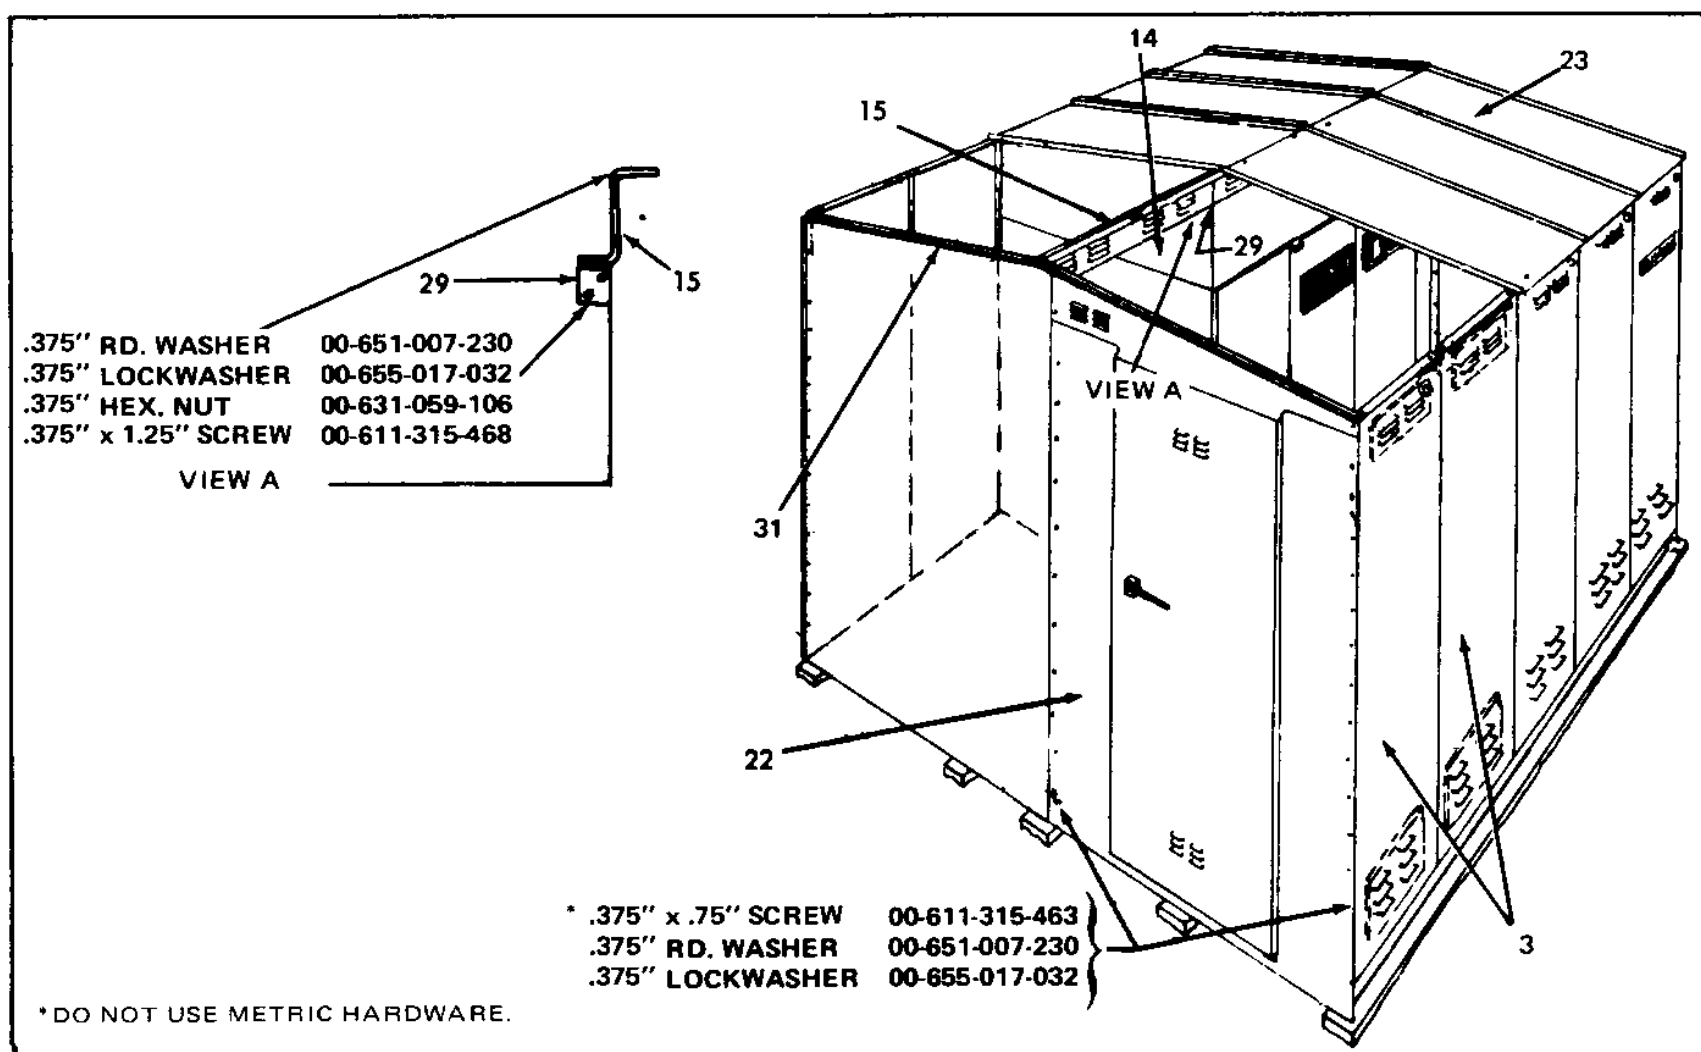
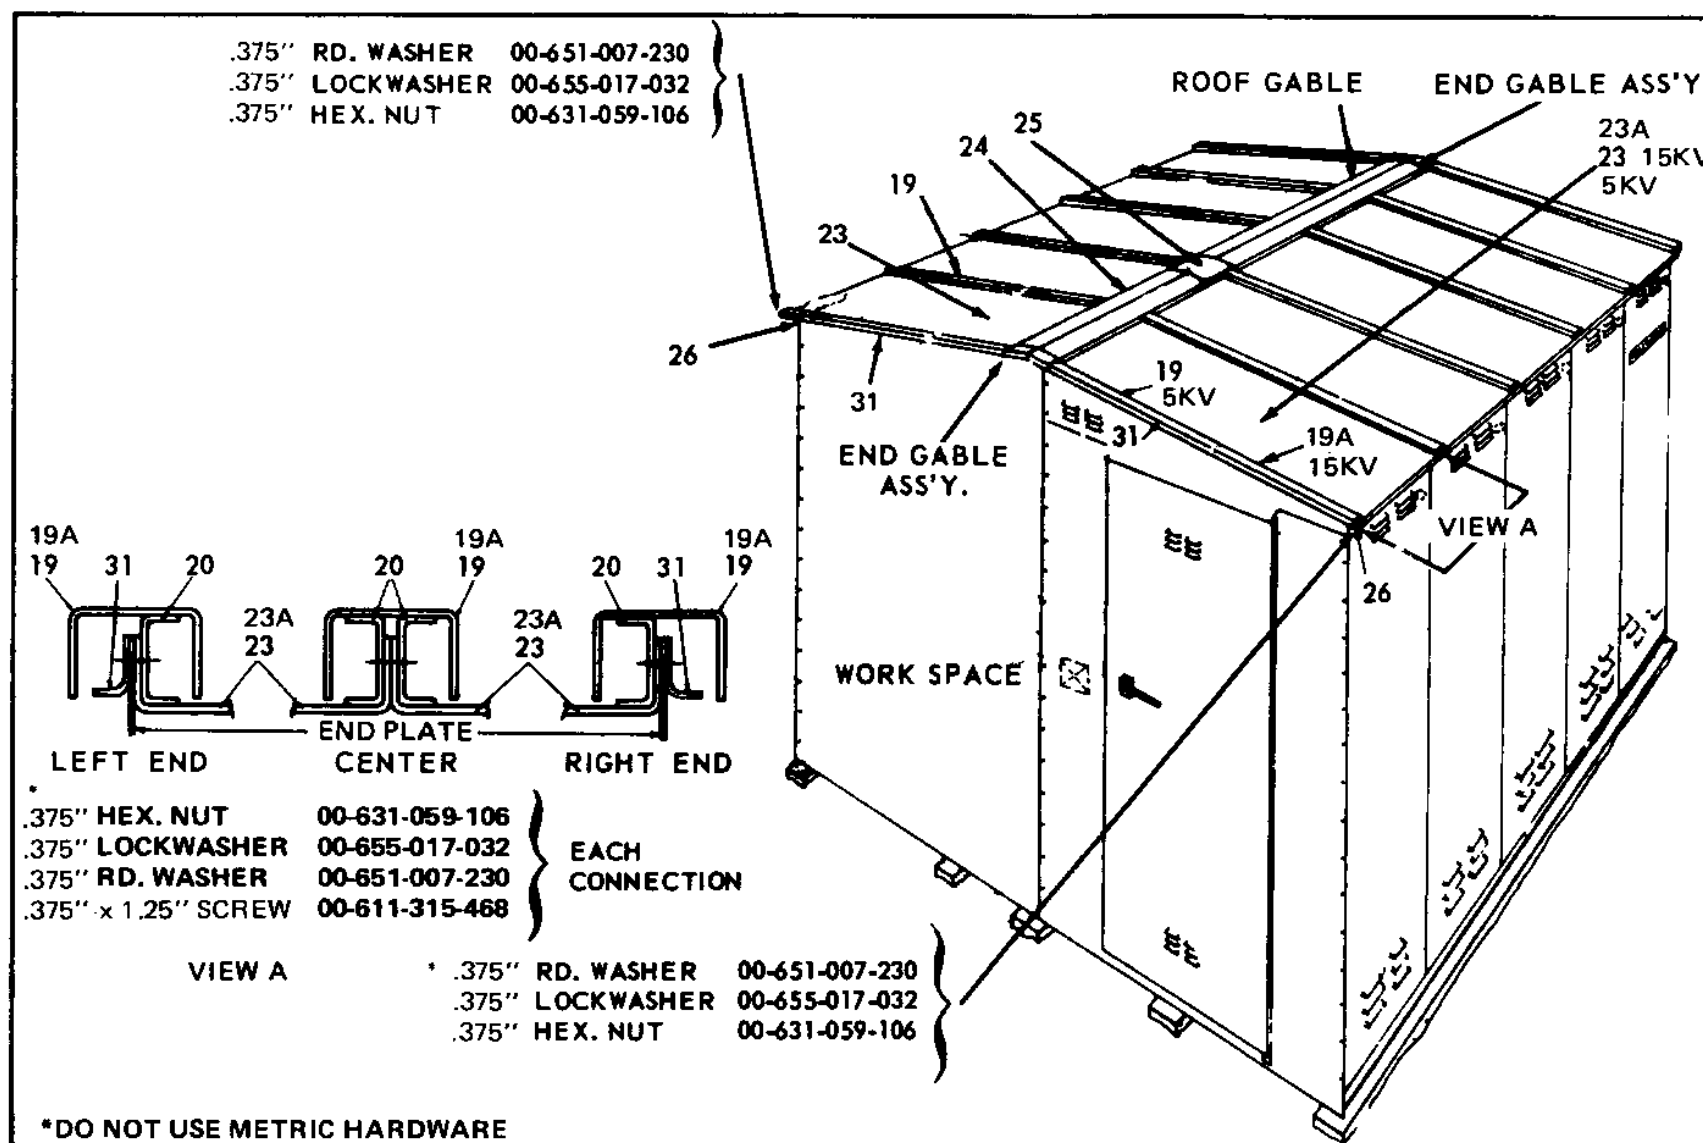

Figure 39. Door and Roof Support Installation (5 kV) — Single Aisle with Work Space
Figure 40. Roof Assembly (5 kV and 15 kV) – Single Aisle with Work Space
13. Apply .50-inch (12.7 mm) sealant tape to door frame assembly (22) and bolt it in place. Place tape so that one edge is on the vertical centerline of the mounting holes and the other edge is toward the point of weather exposure (Figure 39).
14. Remove trim angle (31) from end of cubicle and attach angle (29) to end of switchgear. Install roof support (15) from cubicle to end of work space. See view "A" for attaching support (15) to angle (29).
15. Put all roof decks (23) in place and bolt to the top of the end plate and to the roof support (15). Leave hardware finger tight until step 17 is complete.
16. Fasten roof decks (23) together using bracket (20). See view "A", Figure 40.
17. Mount trim angle (31). Tighten bolts.
14. Remove angle (31) from L.H. end of cubicle (see Figure 40). Attach angle (29) to end of switchgear, Figure 39. Install roof supports (15) from cubicle across beam (14) to end of work space. See view "A" for attaching support (15) to angle (29).
15. Put all roof decks (23A) in place and bolt to the top of the end plate and to the roof supports (15). Leave hardware finger tight until Step 17 is complete.
16. Mount trim angle (31).
17. Fasten roof decks (23) together using brackets (20). See view "A". Figure 40. Tighten bolts.